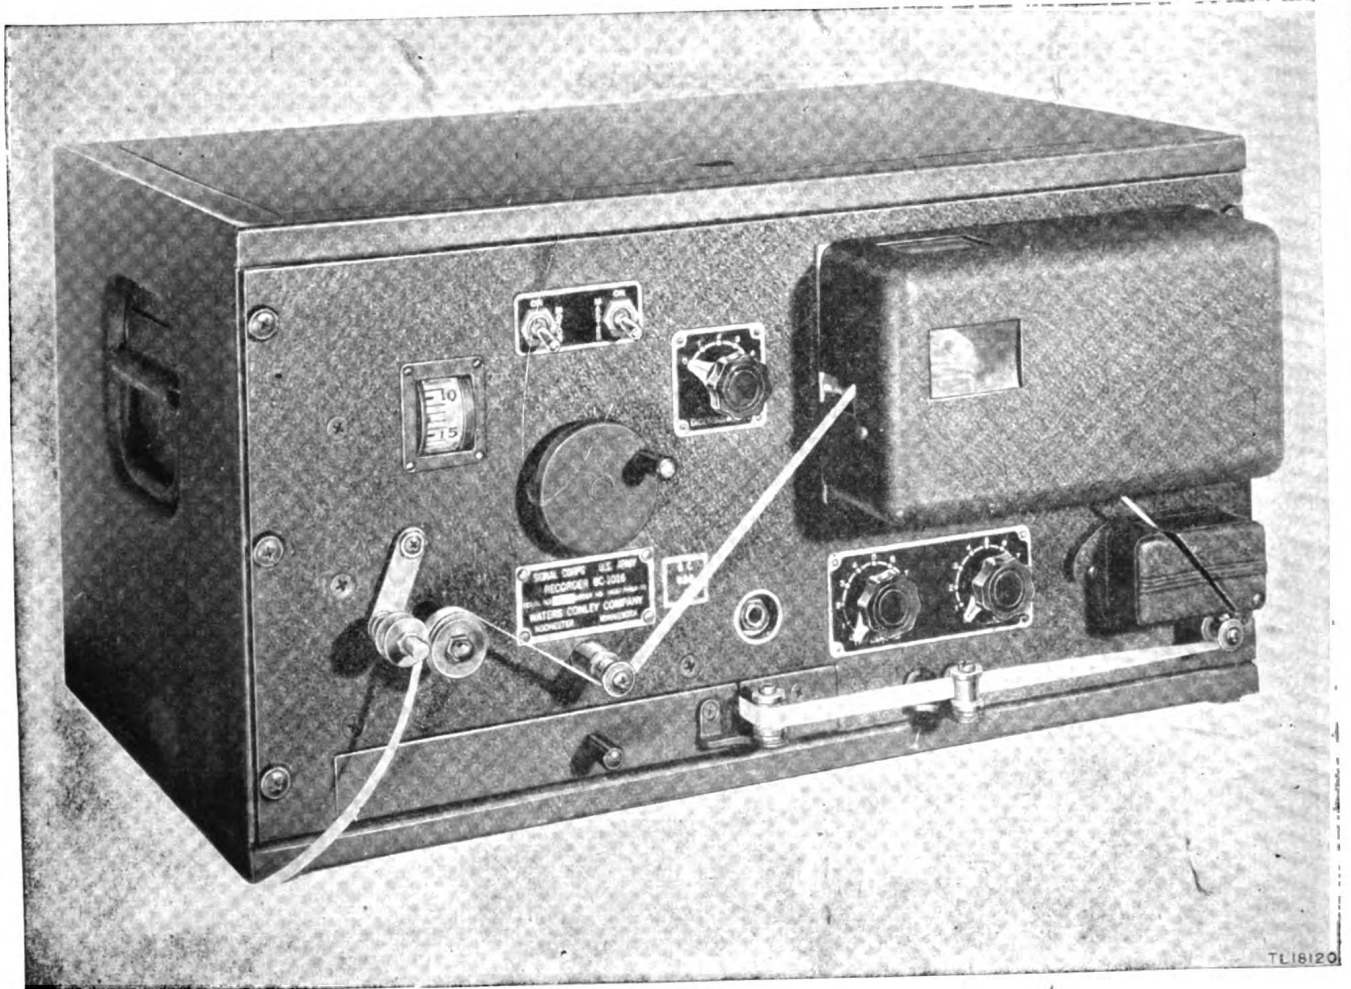

Figure 1. Recorder BC-1016
a. GENERAL. Recorder BC-1016 (fig. 1) is designed for ink recording of code signals at speeds up to 400 words per minute on $\frac{3}{8}$ -inch paper tape for visual reading. The input of the recorder may be connected to a telephone line transmitting radio signals, to the output circuit of a radio receiver, or directly to the output terminals of a hand keyer or several types of automatic keyers. The recorder is a self-contained unit and for operation requires only connection to an alternating-current (a-c) power supply line and a signal source. General tactical use of the equipment is for the permanent recording of decipherable or undecipherable code signals. In the case of unknown codes, the paper tape gives a record of the dots and dashes of the signal which may be decoded at any time. The equipment may also be used for direct keying by an operator using either a semiautomatic or hand key.